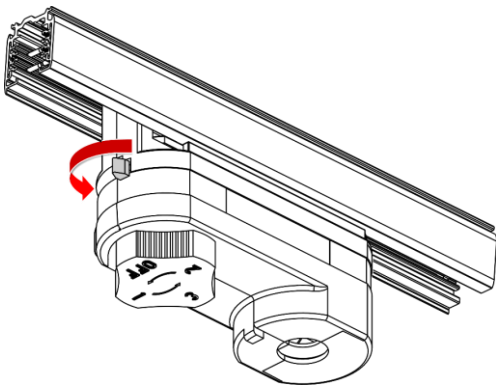

Fig. 13
- 04) Turn the **track lock (02)** counterclockwise to unlock the device (see Fig. 13).